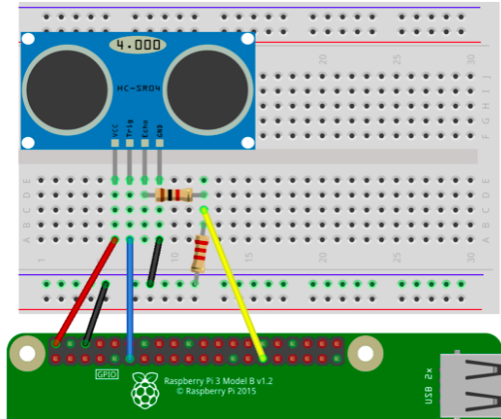

Figure 10-1 Physical sensors connection.
- And insert the jumper wires connecting the sensor leg TRIG in the GPIO0 (PIN11) and the sensor leg ECHO in the breadboard, like the scheme shown in the Figure 10-1;
The Figure 10-1 shows how the electric connection is made.